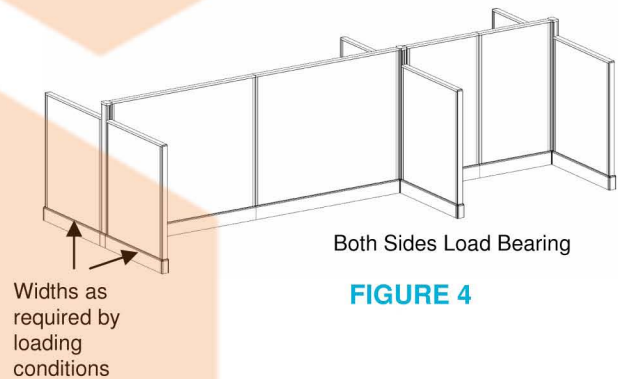

FIGURE 4
2. Panels loaded on both sides with shelves must have 12" minimum width, support panels for standard shelves and 18" minimum width support panels for EDP shelves on both sides of panel and spaced at intervals no greater than ten feet for fabric panels and eight feet for acoustical, glazed, and pass-thru panels. See figure 4.
3. Panels loaded on both sides with lateral files and/or work surfaces must have 24" minimum width support panels on both sides of panels and spaced at intervals no greater than ten feet for fabric panels and eight feet for acoustical, glazed, and pass thru panels. See figure 4.